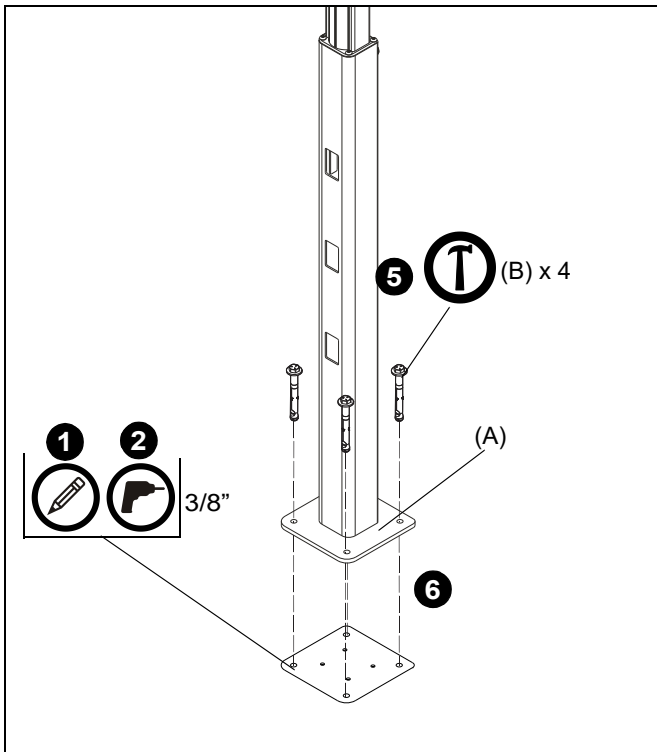
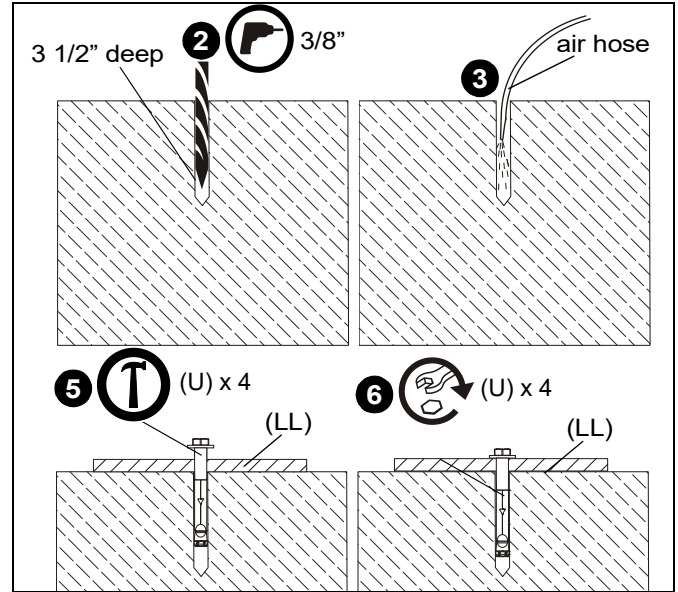

Figure 3
Figure 4
- Using a 3/8" drill bit, drill a hole 3 1/2" in depth at each marked location. (See Figure 3) and (See Figure 4)
- Blow each hole clean of any concrete debris with a large air hose or compressed air in a can. (See Figure 4)
- Place each base plate (A) on top of drilled holes making sure holes on plate are aligned with drilled holes. (See Figure 4)
- Use a hammer to drive 3/8 x 3" concrete anchors (B) through plate holes into the drilled holes until the bolt head is firmly seated against the plate. (See Figure) and (See Figure 4)
- Tighten each anchor by turning the head three to four turns past finger tight. (See Figure 4)